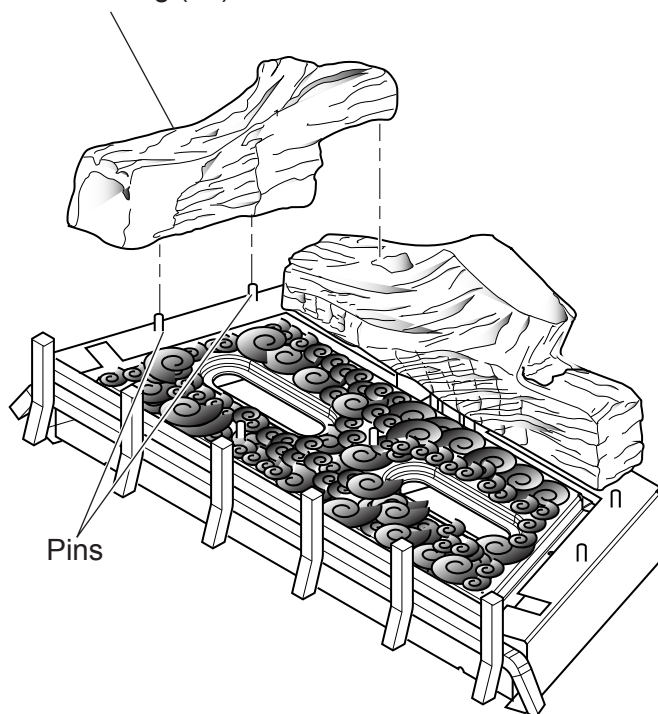

Figure 20 - Installing Left Log #2
5. Line up the holes in the bottom of the left base log (#2) with two (2) pins on the left side of insert. Install left base log. See *Figure 20*.